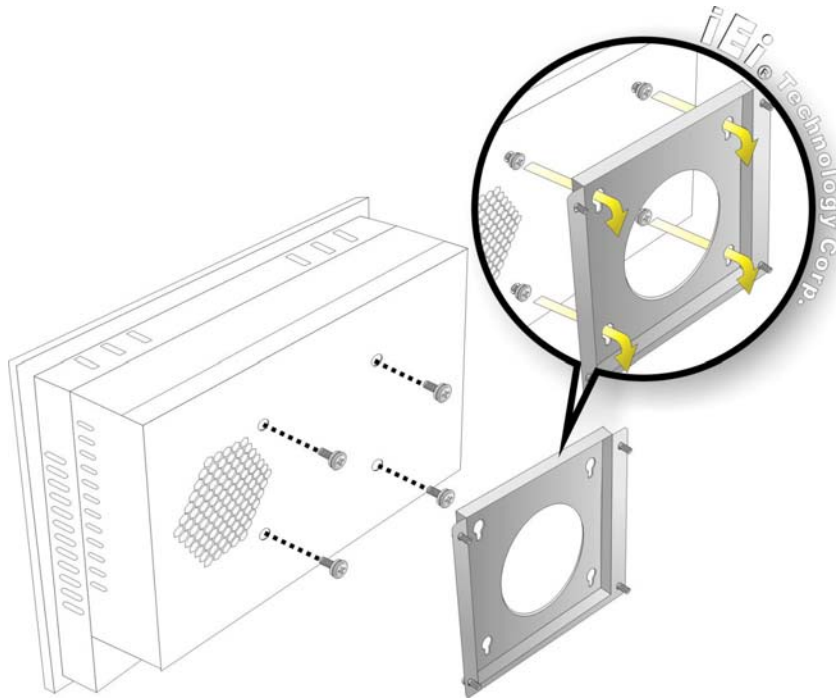

Figure 3-12: Mount the Chassis
- Step 6:** Insert the four monitor mounting screws provided in the wall mounting kit into the four screw holes on the rear panel of the monitor and tighten until the screw shank is secured against the rear panel (see **Figure 3-12**).
- Step 8:** Carefully insert the screws through the holes and gently pull the monitor downwards until the monitor rests securely in the slotted holes (see **Figure 3-12**). Ensure that all four of the mounting screws fit snugly into their respective slotted holes.